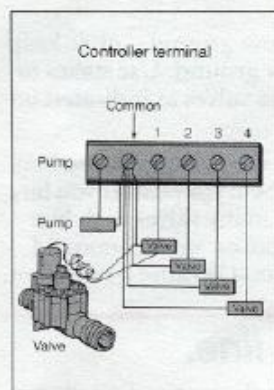

Figure 19: Wires from valves are connected to terminals on the timer.
3. Take one wire from each valve and connect to a common terminal on the timer (Figure 19).
4. Take the other wire from each valve and connect one wire per terminal to the other terminals in sequence (Figure 19).